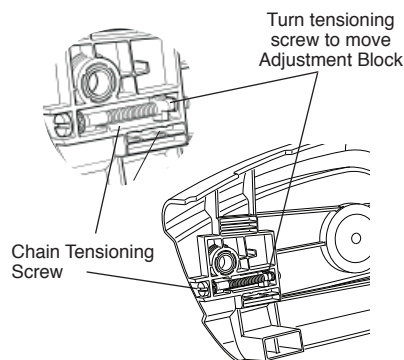

Figure 5 - Chain Tensioning Screw and Adjustment Block Location
7. Before installing sprocket cover to saw body, turn the chain tensioning screw fully counter-clockwise until it stops. This will position the adjusting block towards the end of the chain tensioning screw. (See Figure 5)